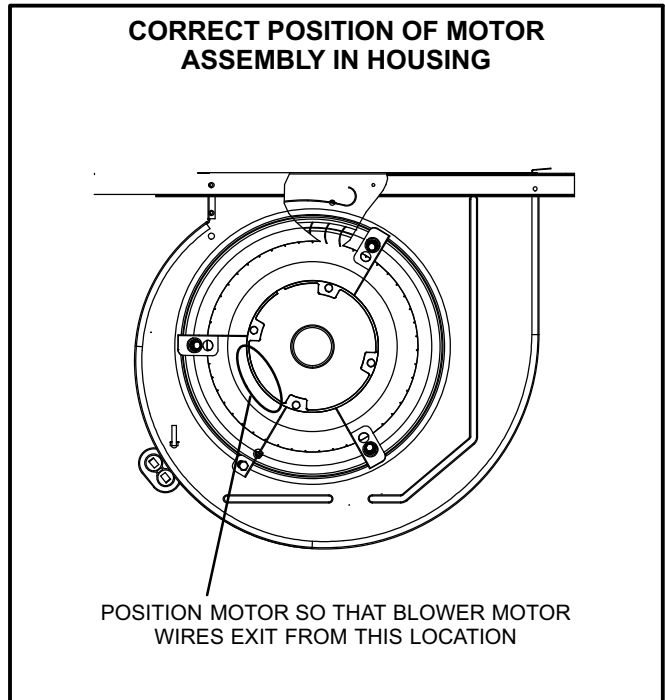
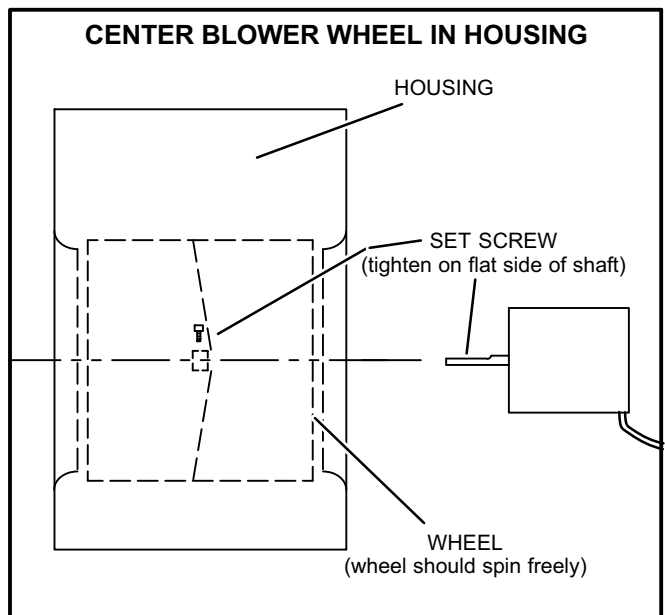

FIGURE 3
FIGURE 4
- 12 - Properly position blower motor assembly in the housing. See figure 3 for proper motor orientation. Center the blower wheel in the housing and tighten the set screw. See figure 4.